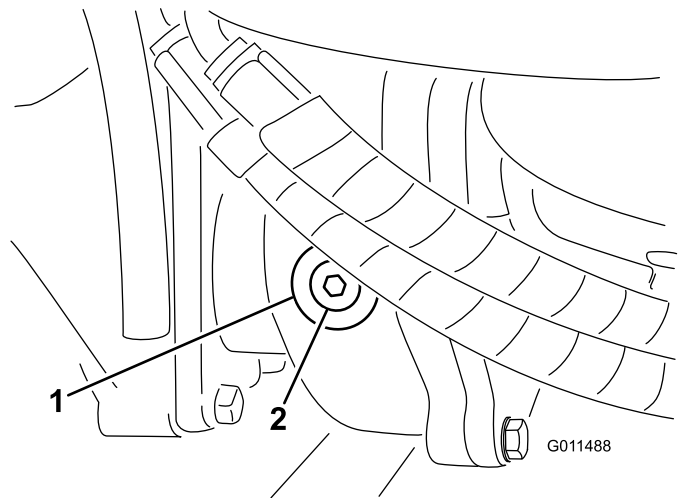

Figure 61
- Remove the check/fill plug from the left side of the gearbox and ensure that lubricant is up to the bottom of the hole (Figure 61).